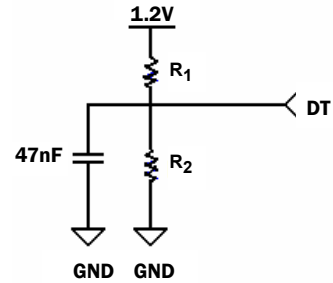
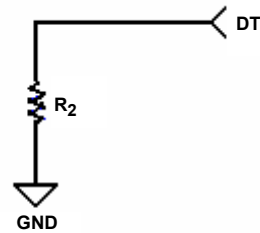

FIGURE 33A.
FIGURE 33B.
The QLx4600-SL30 is capable of maintaining periods of line silence on any of its four channels by monitoring each channel for loss of signal (LOS) conditions and subsequently muting the outputs of a respective channel when such a condition is detected. A reference current applied to the detection threshold (DT) pin is used to set the LOS threshold of the internal signal detection circuitry. Current control on the DT pin is done via one or two external resistors. Nominally, both a pull-up and pull-down resistor are tied to the DT pin (Figure 33A), but if adequate control of the supply voltage is maintained to within  $\pm 3\%$  of 1.2V, then a simple pull-down resistor is adequate (as in Figure 33B). Resistors used should be at least 1/16W, with  $\pm 1\%$  precision.
The internal bias point of the DT pin, nominally 1.05V, is used in conjunction with the voltage divider ( $R_1$  and  $R_2$ ) shown in Figure 33A to set the reference current on the DT pin.
For channels exhibiting more than 25dB of total loss (this includes cable or FR-4 loss) the DT pin should be configured for a reference sink current (coming out of the DT pin) of approximately  $2\mu\text{A}$ . A typical configuration for a  $2\mu\text{A}$  sink current is given in Figure 33C. If the configuration in Figure 33B is utilized, a  $525\text{k}\Omega$  resistor would be used.